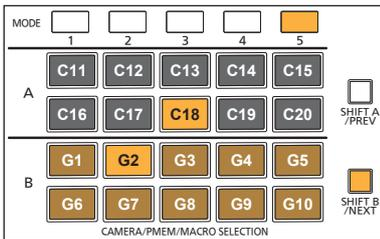

Figure 4
4. Select the G2 macro group with the [G2] button, and when you release the [SHIFT B/NEXT] button, the macro group is selected. (Figure 4)